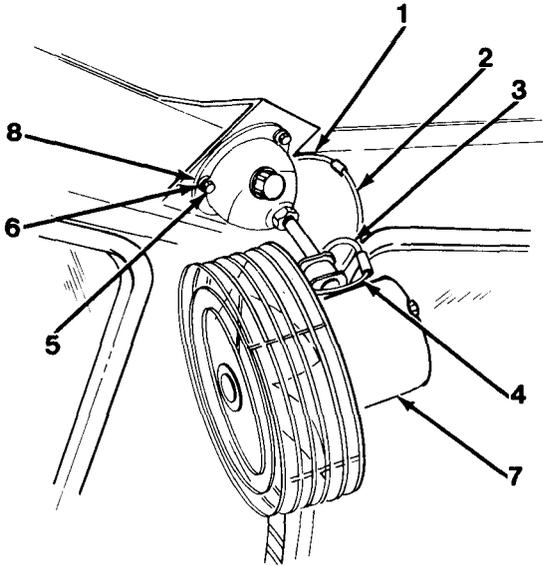

Figure 17-1
2. Disconnect wire assembly (1) from wire assembly (2, Figure 17-1).
3. Disconnect wire assembly (3) from wire assembly (4).
4. Remove three bolts (5) and lockwashers (6).
5. Remove defroster fan assembly (7) and three washers (8).